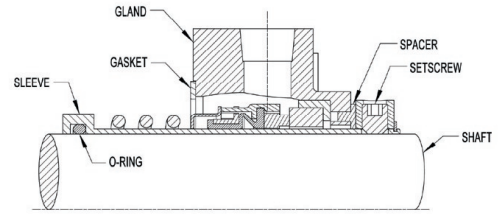

FIGURE 4
7. Loosen the setscrews (item 28) in the bracket that secures the bearing housings.
9. Remove the capscrews (item 32) and the bracket.
10. Remove the four capscrews and washers that hold each cartridge mechanical seal in place and remove the seals. Refer to figure 4. For other optional sealing instructions refer to Mechanical Seal Information on pages 5 and 6.